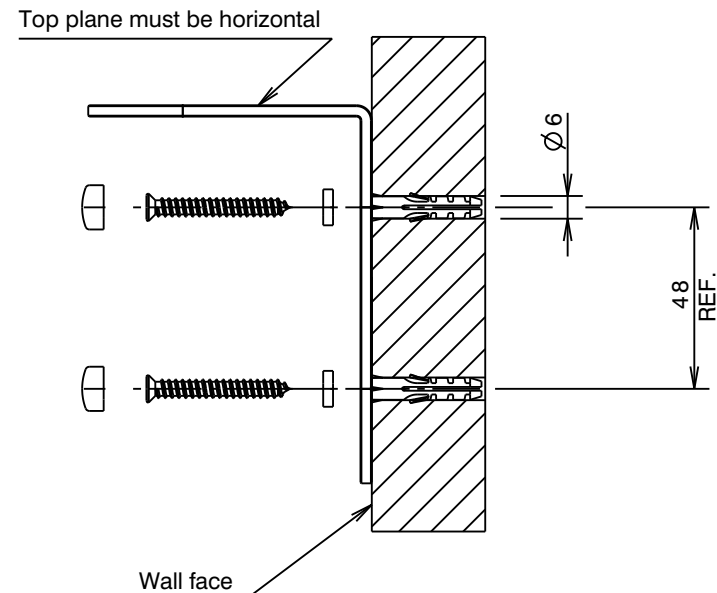

Fig. 2
Position soap bottle holder (2) in desired location against wall or fixing surface. To ensure top plane of soap bottle holder is horizontal as shown in Fig. 2, then using a pencil to mark screw holes position.
- 1) Drill two holes 6mm diameter, 40mm deep for wall plugs (1).
- 2) Insert rounded end of the wall plugs (1) into the drilled holes and tap until flush with the wall surface.
- 3) Pass the screws (4) through holes in cap nut (3) before inserting into the wall plugs (1). Ensure orientation of soap bottle holder (2) is as shown in Fig.2, tighten screws (3).
- 4) Screw caps (5) onto cap nuts (3) and handtighten.
- 1) Determine a suitable position to attach the soap bottle holder (2) so that it can be fixed to a stud or noggin in the wall.
- 2) Ensure correct orientation of the soap bottle holder (2) is as shown in Fig. 2. Pass suitable screws (3) through the holes in cap nuts (3) and screw directly into stud or noggin.
- 3) Screw caps (5) onto cap nuts (3) and handtighten.